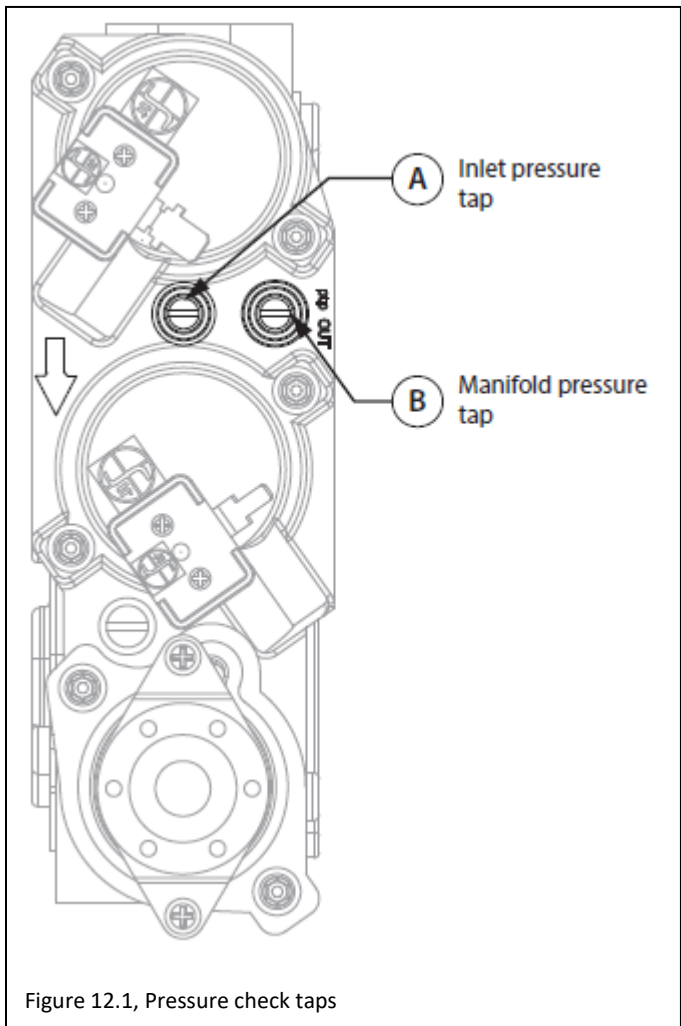

Figure 12.1, Pressure check taps
1. Loosen the inlet (IN) pressure tap by turning screw counter-clockwise. See (A) in FIGURE 12.1.
5. Disconnect hose and tighten the inlet (IN) pressure tap by turning screw clockwise. Screw should be snug. Do not over tighten.
6. Relight pilot and burner. Then reattach manometer to the inlet pressure tap (A) to verify the tap is completely sealed. Manometer should read no pressure.
2. Loosen manifold (OUT) pressure tap by turning screw counter-clockwise. See (B) in FIGURE 12.1.
7. Attach the manometer to the manifold pressure tap (B) to verify it is completely sealed. The manometer should read no pressure when pilot and burner are on.